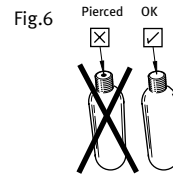

Fig. 6
- Unscrew and remove the CO₂ gas cylinder from the inflator and inspect its small end. If it's pierced, replace it! (Fig. 6).
1. Unscrew and inspect the CO₂ cylinder. If used or damaged, discard the CO₂ cylinder. (Fig 6).
- Unscrew and inspect the CO₂ cylinder. If used or damaged, discard the CO₂ cylinder. (Fig. 6).